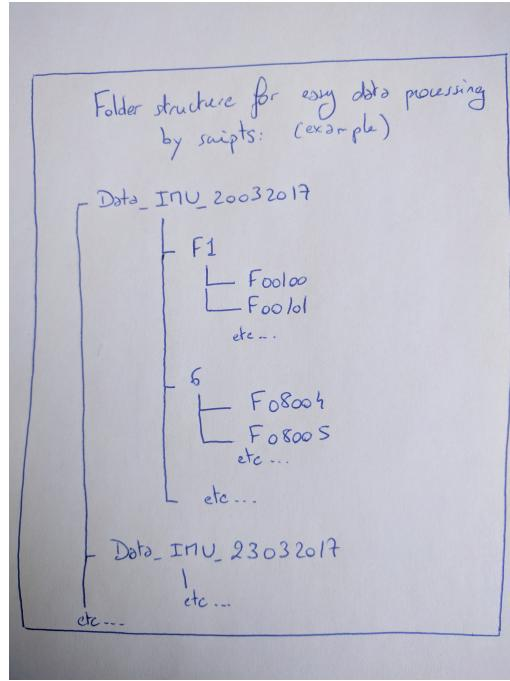

Figure 7: Folder structure to use for easy data processing.
- Copy all files, one SD card content per folder. For ease of processing by scripts, follow the file tree given here. For example, if the date is 23/03/2017 and the SD card from the logger F1 contains files F00100, F00101 and F00102, create a folder 'Data_IMU_20032017' containing a folder 'F1', and in the folder F1 copy the files F00100, F00101 and F00102. If the logger 6 was also used, put all the data of the SD card corresponding to the logger 6 in a folder named '6', in parallel to the folder 'F1'. See Fig. 7. Some error messages can happen when copying files, because the last file used when power is switched off (which contains at most 15 minutes of data) gets corrupted. Those error messages can be ignored, and the corresponding files not copied.